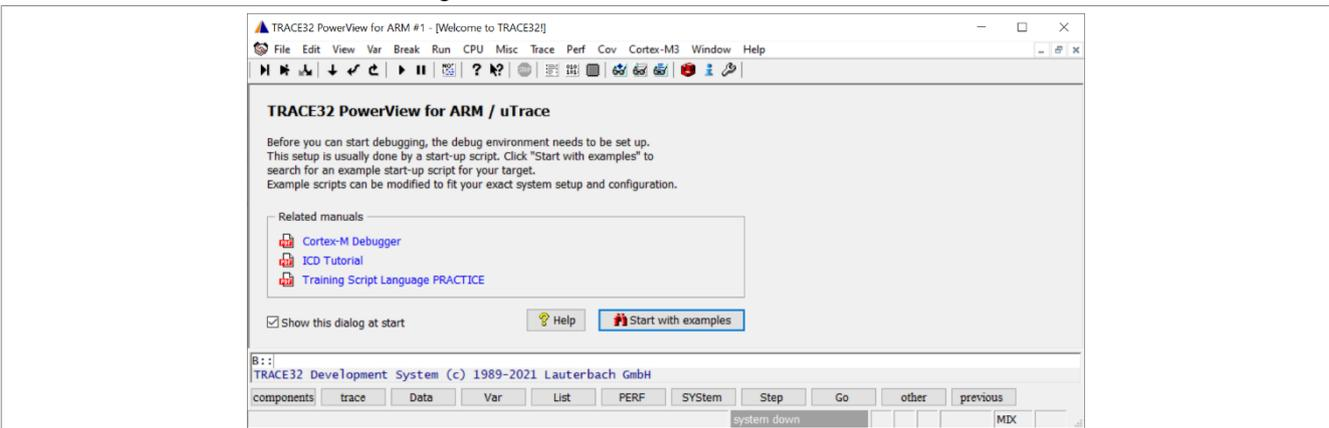

Figure 18. Main page of TRACE32 for ARM32
2. Figure 18 shows the main page of TRACE32 for ARM32. If the status bar at the bottom of the main page shows **power down** instead of **system down**, check the power supply of the debugger and the connection with the JTAG interface of the target board.